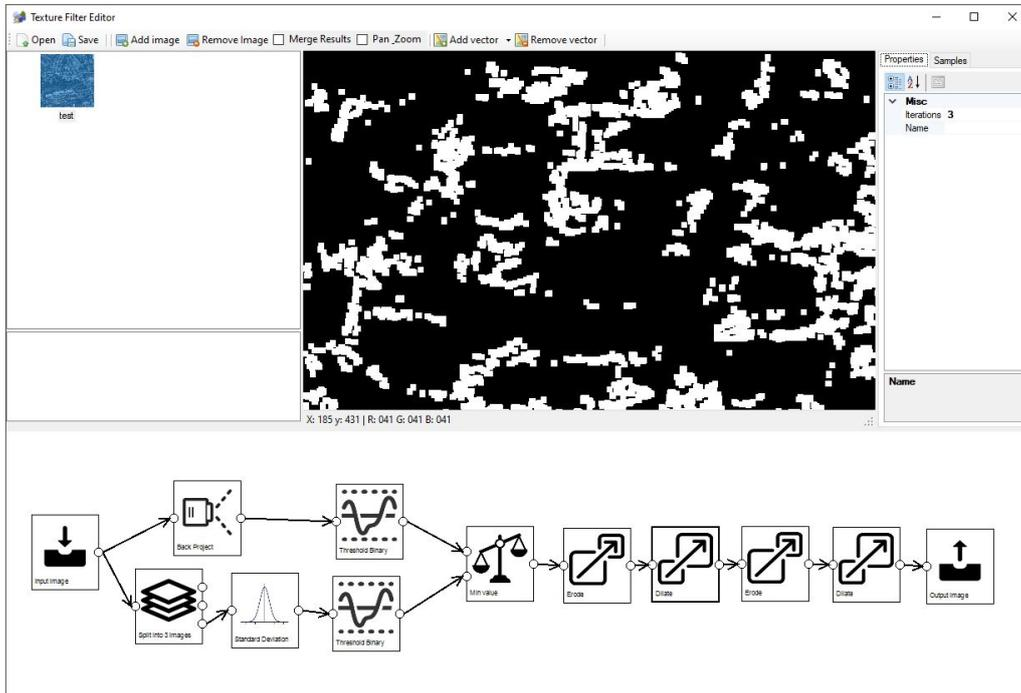

Figure 6.22: Dilating to grow the detected areas
9. Dilate step with 3 iterations to grow the detected vegetation back to the normal size, see Figure 6.22.